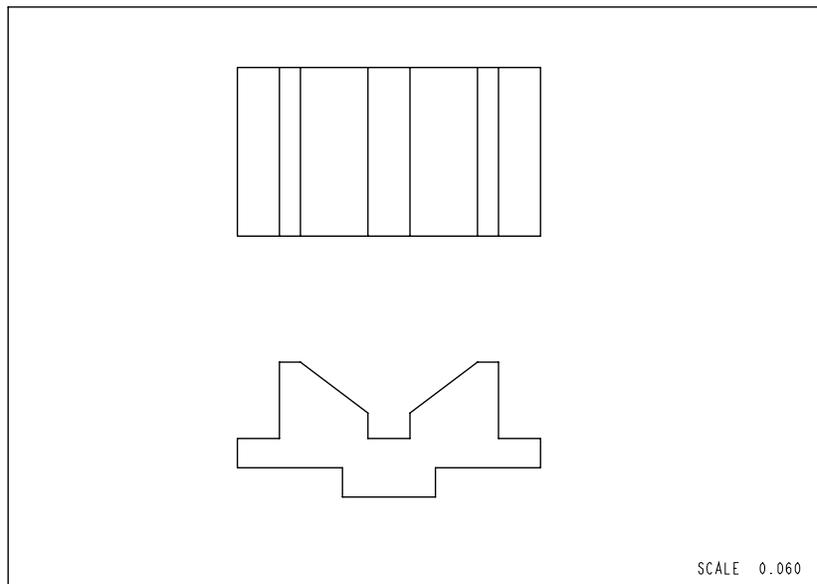

Figure 11-23 Top view and the front view of the model
3. Specify the placement point for the top view as shown in Figure 11-23. As soon as you specify the point, the **Message Input Window** is displayed. Enter the scale factor for the view as **0.06** and press ENTER. The default view is placed and the **Orientation** dialog box is displayed.
10. Specify the placement point for the front view below the top view as shown in Figure 11-23.
The two views are shown in Figure 11-23.